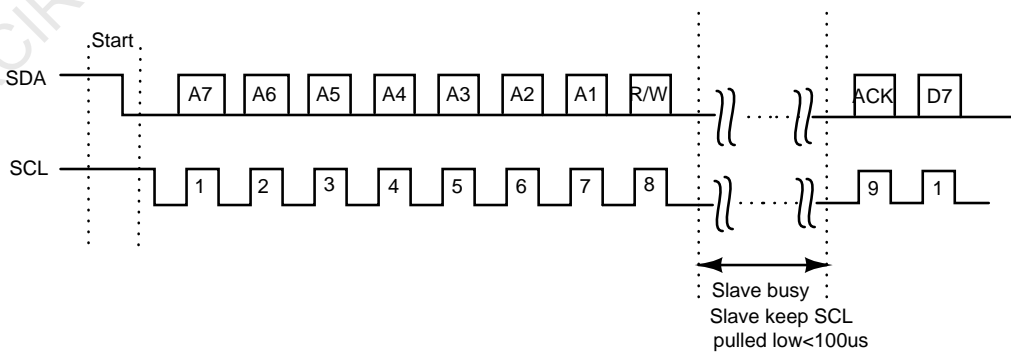

Figure 36: I²C clock stretching example
5. I²C slave can hold off the master in the middle of a transaction using what's called clock stretching (the slave keeps SCL pulled low until it's ready to continue). Refer to figure 36 for an example.